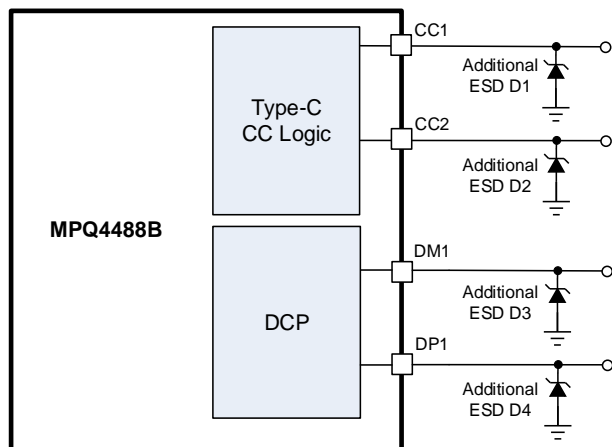

Figure 10: Recommended I/O Pins for ESD Enhancing
body model on CC1 through CC4. The ESD structures can withstand high ESD both during normal operation and when the device is powered off. In order to further extend the DP, DM, and CCx pins' ESD level for covering complicated application environments, an additional ESD diode should be added on all pins (see Figure 10).
15) See Figure 10 for details on I/O pins ESD protection enhancement.